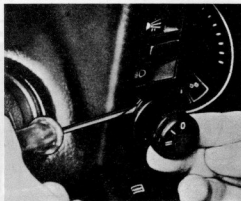

Fig. 10.30. Removing the headlight switch (Sec. 29)
- 1 Push in the two spring clips on each side of the switch body and pull the switch from the instrument panel (Fig. 10.30).